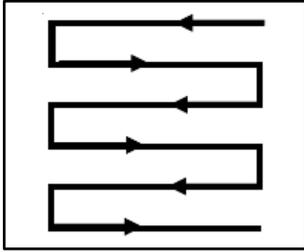

Fig. 10
12). Work in slight overlapping rows. The most effective pattern for scarifying/raking lawns is straight lines along one of the sides. This will keep the rows even and ensures that all the lawn is scarified/raked without missing any spots. (See Fig. 10).